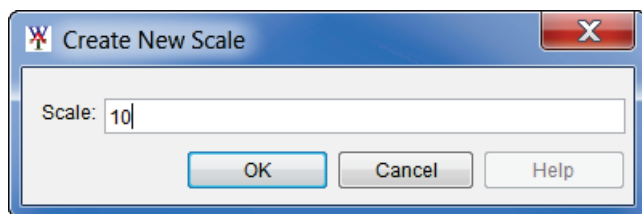

Figure 5.21 Create New Scale Dialog Box
2. To enter a scale factor, from the **Scale** menu, click **New**. The **Create New Scale** dialog box opens (Figure 5.21), in the **Scale** box, enter values for the scale factor.
3. Click **OK**, the **Create New Scale** dialog box closes (Figure 5.21), and the visualization scale is set for the stream alignment.